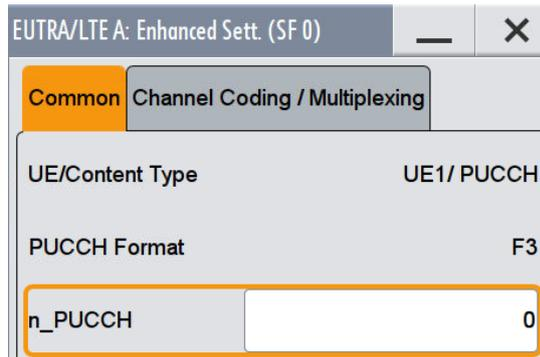

Fig. 3-136: Set the parameter n_PUCCH to 0
8. Set the resource index **n_PUCCH** to 0. (Fig. 3-136)